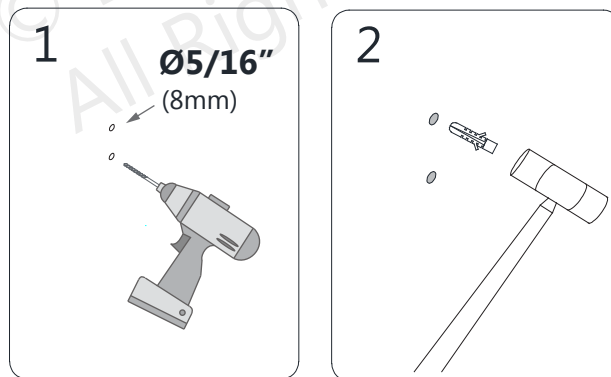

Fig 10
10. Using the marks from the previous step, drill the holes using a **Ø5/16"** drill bit and insert the **Wall Anchors (#18)**. Install the **Guide Rail Bracket (#02)** and the left **Wall Profile (#06)** using the **ST4.2 x 40 Countersunk Screws (#17)**. **(Fig 10)**